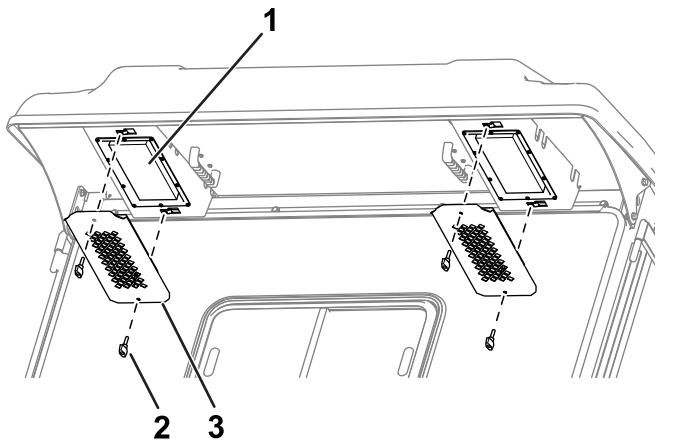

Figure 82
4. Use the knobs and grates to install the filters into the cab (Figure 82).
1. Remove the knobs and grates from the cab rear overhang (Figure 82).